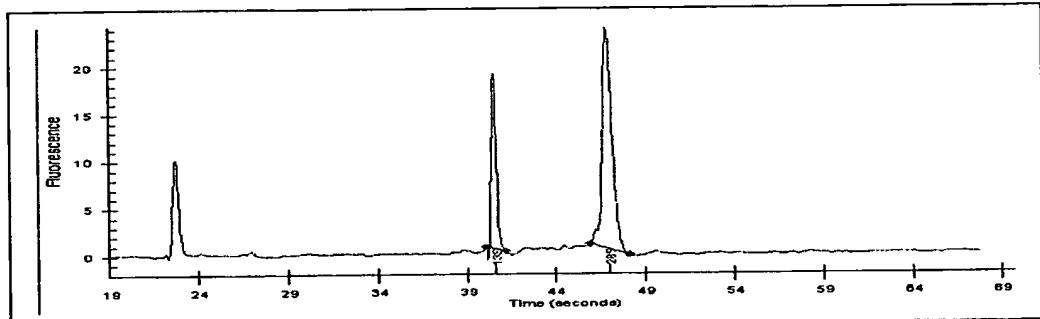

Figure 2.1
- Integrity of total RNA samples can also be assessed qualitatively on an Agilent 2100 Bioanalyzer. Refer to Figure 2.1 for an example of good-quality total RNA sample.